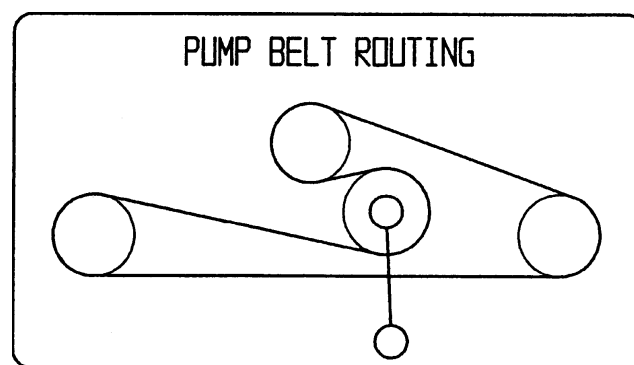

Figure 44
1. Pull spring loaded idler down and remove traction belt from the engine and hydro pump pulleys (Fig. 44). Remove belt between pulleys.
2. Install new belt around engine and hydro pump pulleys (Fig. 44).
3. Pull spring loaded idler down and align below traction belt. Release pressure on spring loaded idler (Fig. 44).